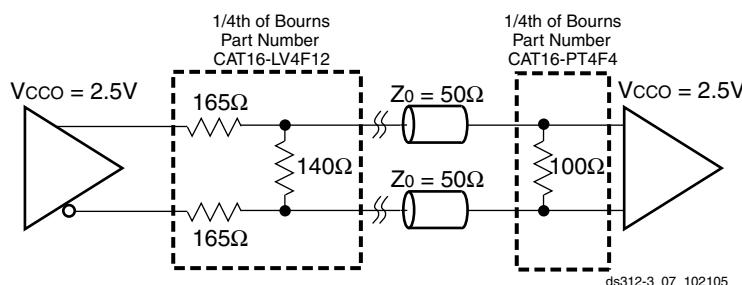

Figure 72: External Termination Resistors for BLVDS I/Os
- Output voltage measurements for all differential standards are made with a termination resistor (R_T) of 100Ω across the N and P pins of the differential signal pair. The exception is for BLVDS, shown in Figure 72 below.